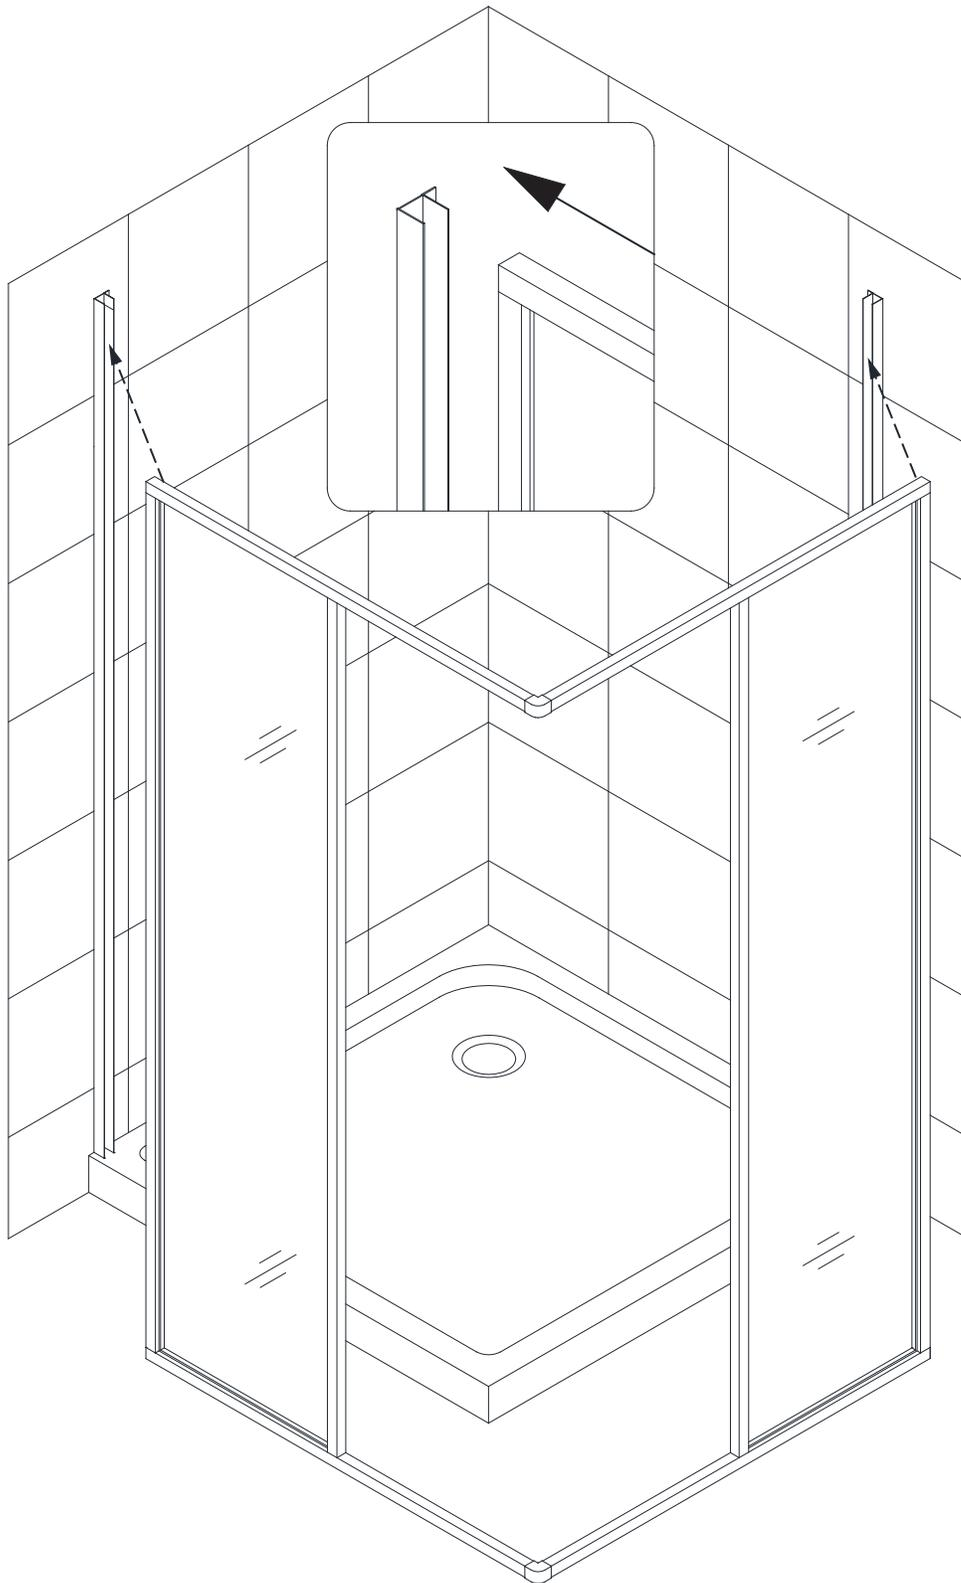

Fig 4
4. Carefully align the assembled **Stationary Glass Panels (#02)** onto the Shower base and insert the **Glass Profiles** into the **Wall Profiles (#01)**. (**Fig 4**)